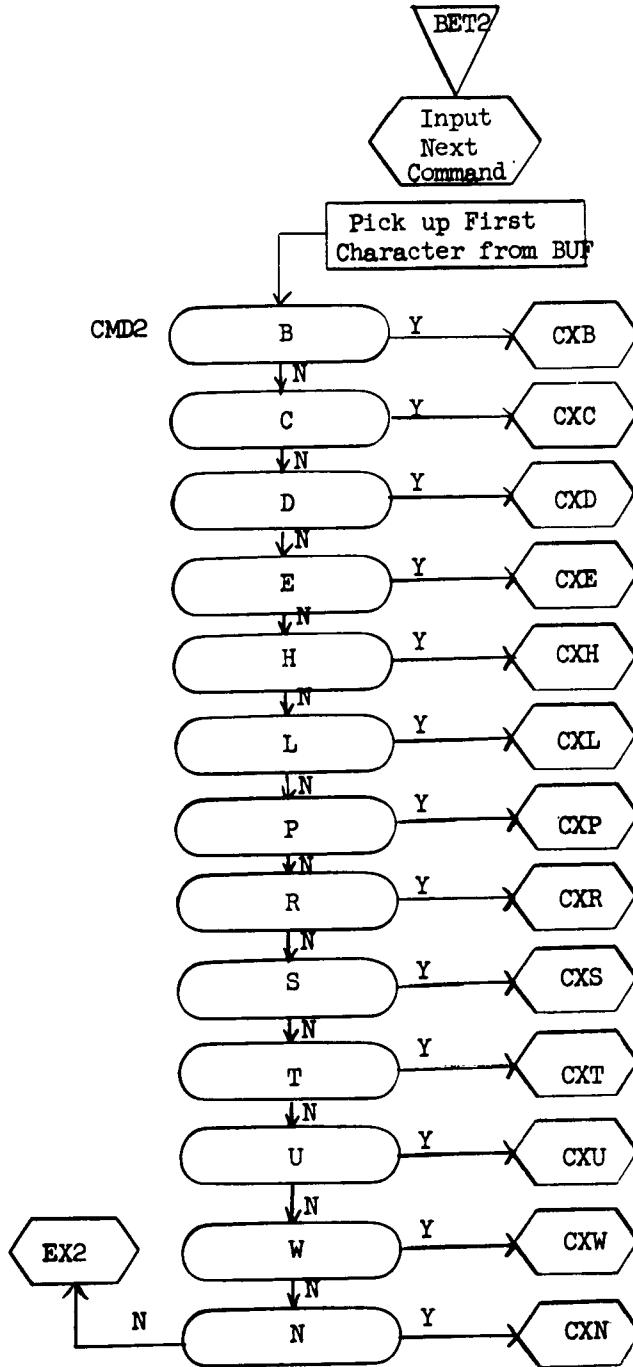

Figure 7.4 Command Test Sequence
7.2.3 Command Input (Figure 7.4)
Figure 7.4 is schematic representation of the multiple switch involved in transferring to the proper command interpretation Subroutine.
- c. Increase CD1 by one and call OVF Subroutine. OVF merely checks to see if a Trap Table overflow has occurred. An overflow will cause the Trap Table to be deleted and transfer to BET2. (Figure 7.4).